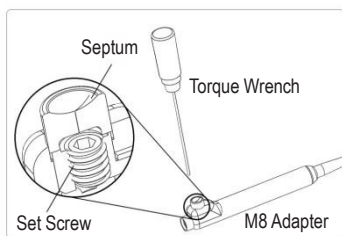

Figure 1: The setscrew assembly in the Vercise M8 Adapter
4. Retract the setscrews in all Adapters: insert the torque wrench into the septum containing the setscrew and turn the torque wrench counter-clockwise (Figure 1).